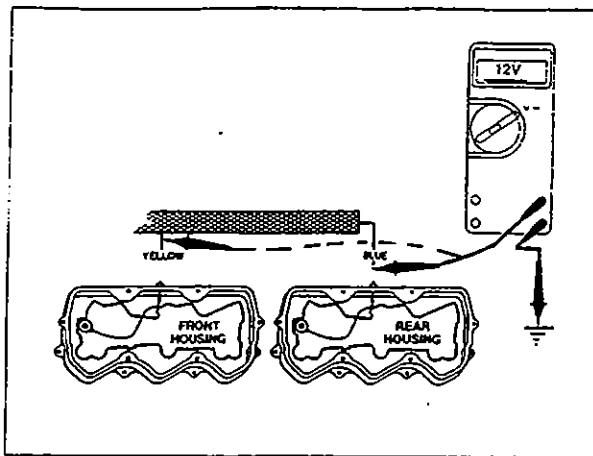

Fig. 1.1.16
**Correction:** If all of the above procedures do not locate the problem, disconnect the wire harness at the engine brake spacers. Set the selector switch in high, accelerator in low idle, cruise control switch off and clutch switch activated, both blue and yellow wires should read 12 volts (Fig. 1.1.16). Depressing the clutch should cause the voltage at each wire to drop to 0 volts. If these readings do not occur, replace the control module.